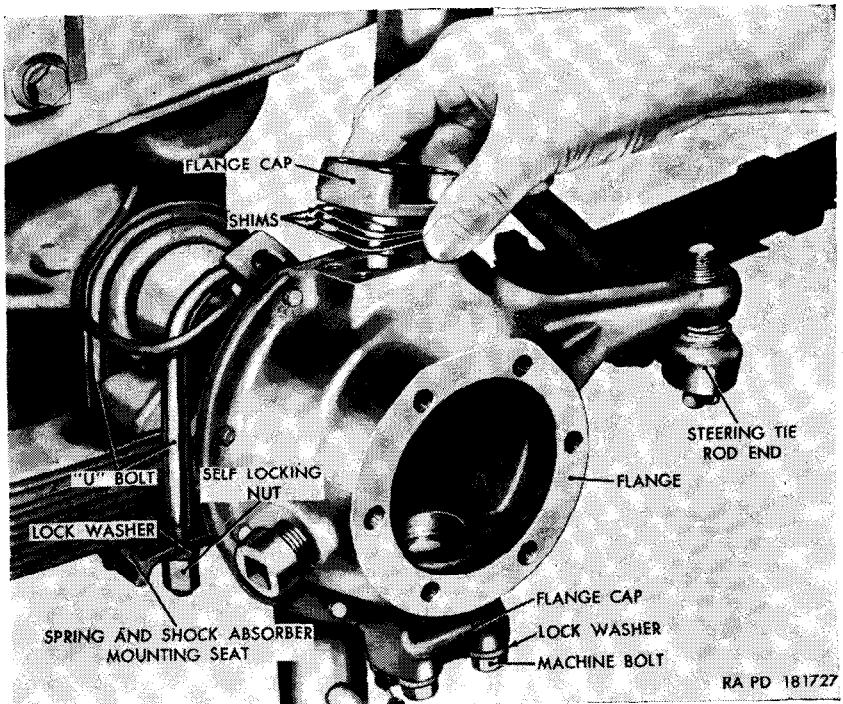
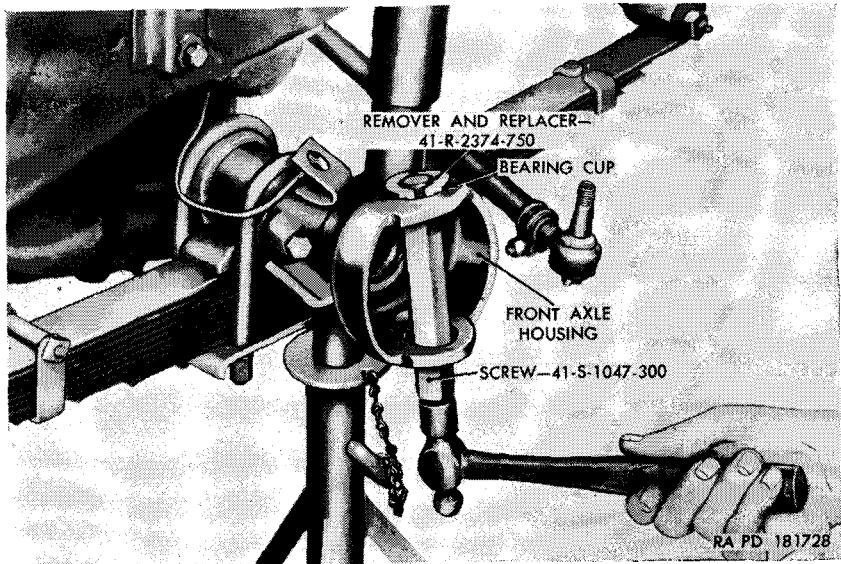

Figure 105. Removing steering knuckle flange cap from steering knuckle flange with arm assembly.
Figure 106. Removing steering knuckle flange cap bearing cup from front axle housing with remover and replacer 41-R-2374-750 and screw 41-S-1047-300.
- (5) Remove the two remaining bolts and lockwashers securing the steering knuckle flange cap in position and pry the cap and shims (fig. 105) out of the steering knuckle flange.
- (6) Remove the four bolts and lockwashers securing the (lower) steering knuckle flange cap in position and pry the cap out of the steering knuckle flange (fig. 105).
- (7) Remove the steering knuckle flange oil seal assembly (par. 229a).
- (8) Pull the steering knuckle flange off the front axle housing and steering tie rod end.
- (9) Lift one steering knuckle flange cap bearing cone out of the steering knuckle flange and the other cone out of the front axle housing.
- (10) Position the remover and replacer 41-R-2374-750 and screw 41-S-1047-300 (fig. 106) in the front axle housing and drive the steering knuckle flange cap bearing cup out of the housing. Remove the lower steering knuckle flange cap bearing cup in the same manner.
- (1) Position a steering knuckle flange cap bearing cup in upper section of the front axle housing with the small end of the bearing taper facing down. Place the remover and replacer 41-R-2374-750 (fig. 106) in the bearing cup. Install the screw 41-S-1047-300 (fig. 106) in the remover and replacer and drive the bearing cup into the housing until upper edge of cup is flush with housing.
- (2) Position a steering knuckle flange cap bearing cup in the lower section of front axle housing with small end of bearing taper facing up. Place the remover and replacer 41-R-2374-750 (fig. 106) in the cup. Install the screw 41-S-1047-300 (fig. 106) in the remover and replacer and drive the cup into the housing until the upper edge of the cup is flush with the housing.
- (4) Insert one steering knuckle flange cap up through the lower section of the steering knuckle flange (fig. 105). Secure the cap to the flange with four $\frac{3}{8}$ -inch lockwashers and $\frac{3}{8} \times 1\frac{1}{2}$ bolts.
- (5) Insert a steering knuckle flange cap and shims (fig. 105) into the upper section of the steering knuckle flange. Secure the cap to the flange with two $\frac{3}{8}$ -inch lockwashers and $\frac{3}{8} \times 1\frac{5}{8}$ bolts, in the two outside holes. The thickness of shims must be adjusted until vertical movement of the flange is eliminated and there is only slight drag when the flange is turned.
Place the spring and shock absorber mounting seat (fig. 105) over the ends of the U-bolts with the free end of the shaft of the mounting seat forward and pointing outward. Secure with four $\frac{1}{16}$ -inch lockwashers and U-bolt nuts. Repeat the procedure on the other side of the vehicle.